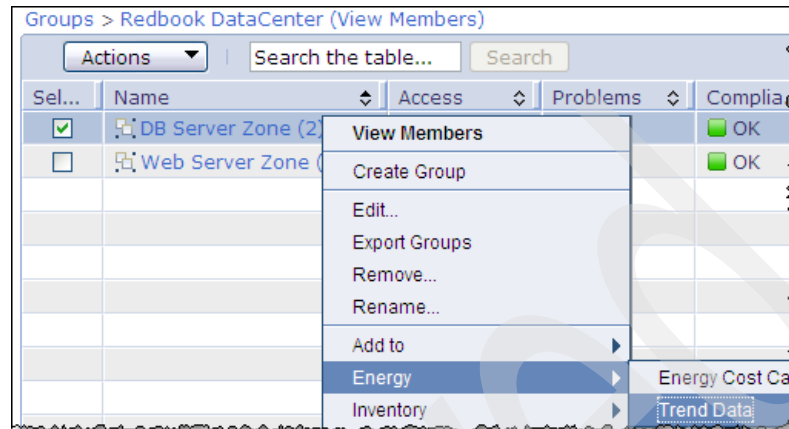

Figure 8-41 Viewing the power-trend data of the DB Server Zone systems
8. To view the power-trend data for the DB Server Zone, right-click **DB Server Zone (2)** and then select **Energy** → **Trend Data** as shown in Figure 8-41.